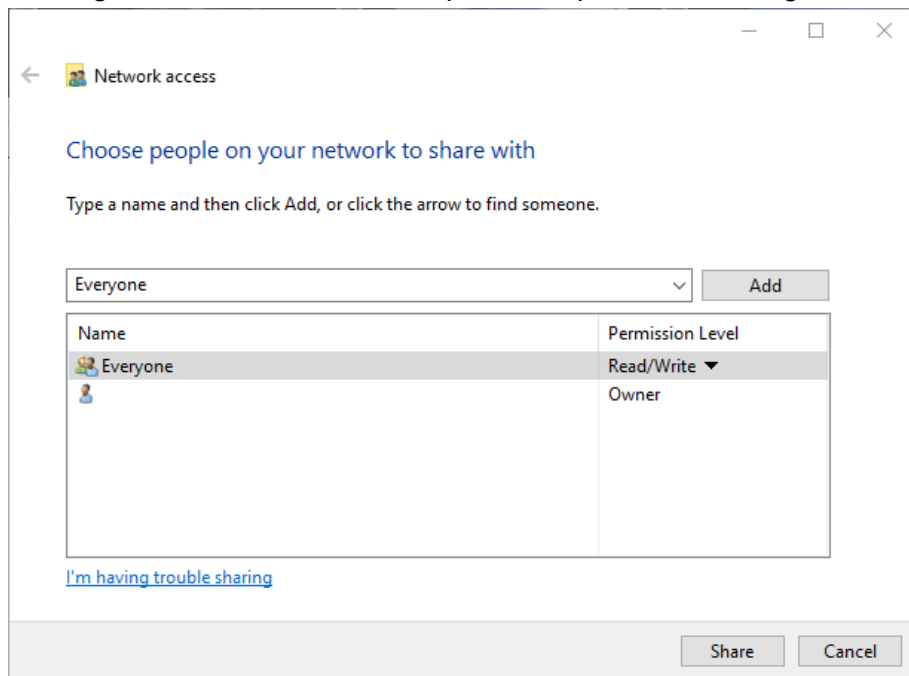

Figure 10-3
- ii. There are files that must be “shared” on your network. On each computer (director and client computers), navigate to the C:\ drive and locate the “NEVCOFiles” folder. Right click on this folder, and go to “Give access to” and select “Specific people...” Now, as seen in Figure 10-3, select “Everyone” in the drop down and click add, make sure the permission level is Read/Write, and click Share. Complete this process with the “C:\NEVCOLogs” folder as well. Make sure this is done on the director computer and all the client computers. You should now be able to send files to the client computer(s).